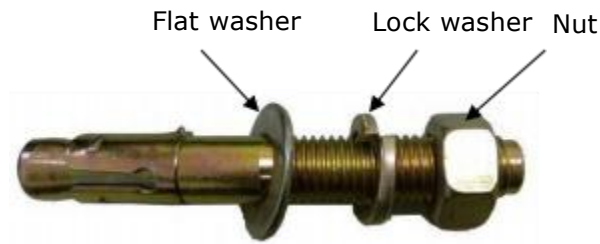

Fig. 15
1. Prepare anchor bolts (See Fig. 15).